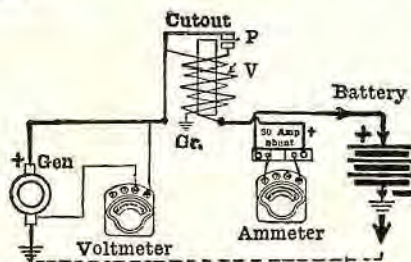

Fig. 11. Testing a generator by driving the generator.
1. By driving the generator on the test stand and connecting it to the battery through the cut-out, as if on the car (Fig. 11).
Method 1: By driving the generator at a speed of 370 r.p.m., "0," or zero amperage, would be indicated (see table); but 6 volts is the voltage that should be indicated. The cut-out points (P) (Fig. 11) would be open, as the speed is not great enough to produce pressure sufficient to close contact-points (P). At 490 r.p.m., 7 amperes and 6.5 (6½) volts should be indicated. The cut-out points (P) should close, and the generator would charge the battery. At 2,200 r.p.m., 14.2 amperes (maximum) and 6.9 volts would be indicated. The ampere-meter is placed in series with the circuit indicated above, as in Fig. 11. A voltmeter is placed across the circuit, to indicate the voltage.